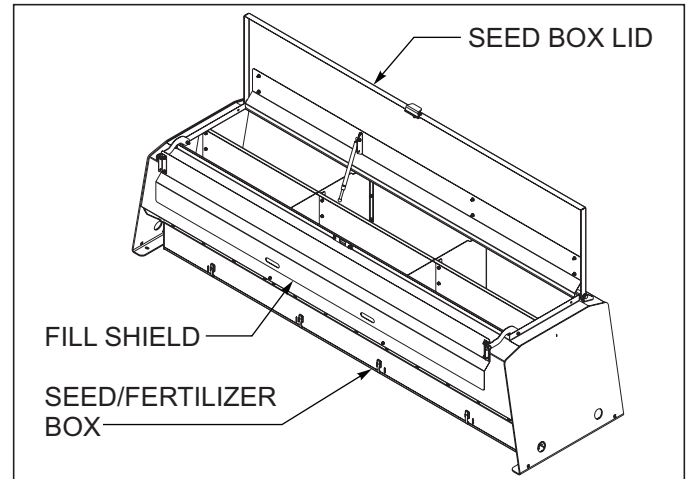

Figure 4-16: Both Compartments Filled w/ Seed
5. When both compartments are being used for seed, open seed box lids and lift and rotate the fill shield over the rear of the seed box. This allows the compartments to be filled at the same time. This also improves access for maintenance and cleaning **See Figure 4-16.**